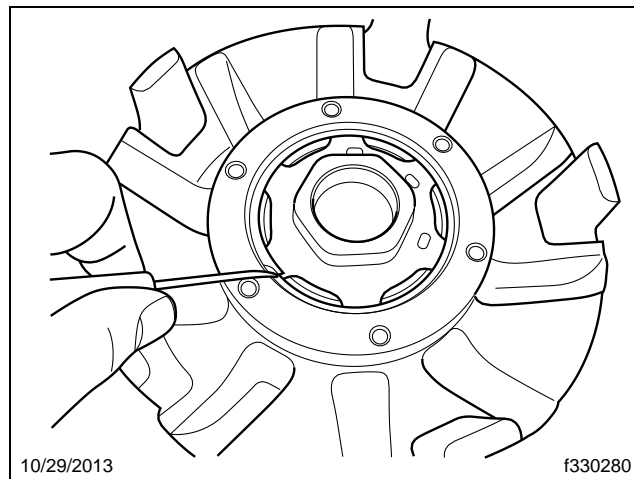

Fig. 5, Removing a Spiral Snap Ring
5. Loosen the spindle nut. As the spindle nut is loosened, it can act as a hub puller. However, if the hub will not come off of the spindle without exceeding 50 lbf-ft (68 N-m) of torque, remove the spiral snap ring (see **Fig. 5**) and then the spindle nut assembly.